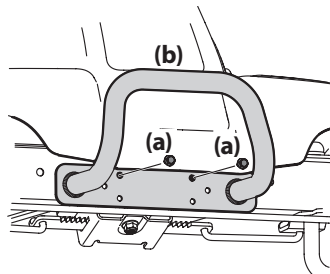

Figure 10
1. Remove the two screws (a) from the front and center of the front axle. See Figure 10.
2. Position the bumper (b) over the mounting holes and secure using the screws (a) removed in Step 1. See Figure 10.